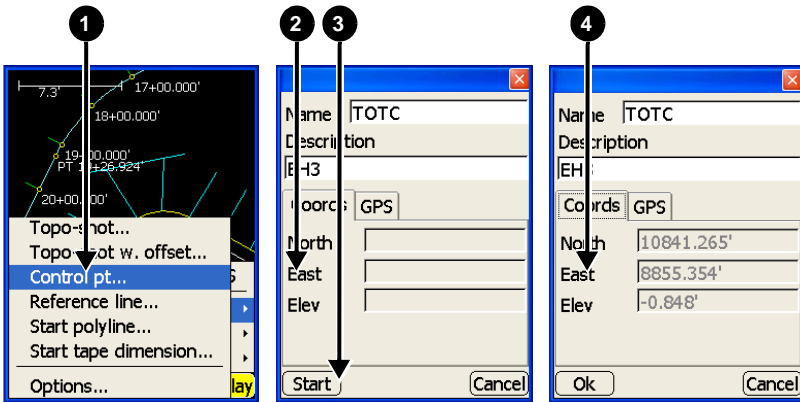

Figure 6-5. Measure a PZL-1 Control Point
1. Press **Survey** ► **Measure pts** ► **Control pt** (Figure 6-5 on page 6-6).